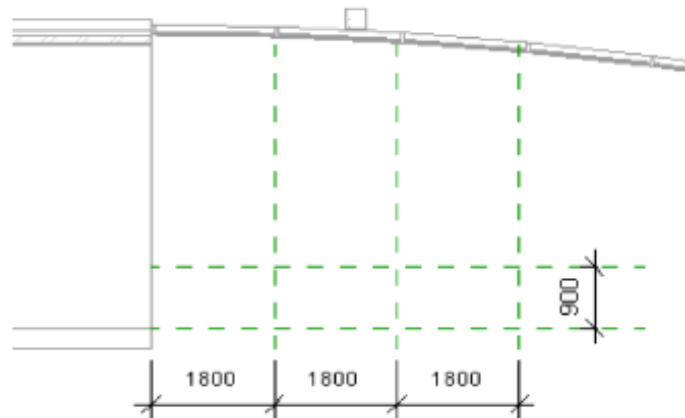

Figure 12–56
7. Draw the reference planes shown in Figure 12–56.